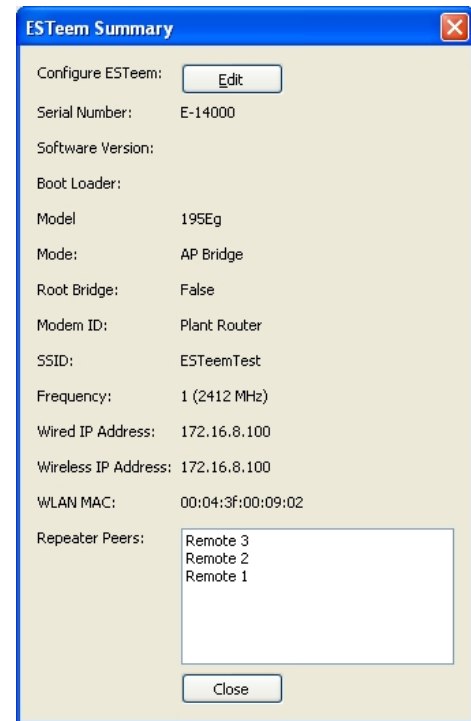

Figure 20: ESTeem Summary Page
3. By default, the ENC Utility sets all ESTeem modems in AP Bridge mode. To change the Plant Router ESTeem to AP Router mode, double-click on the icon to bring up the ESTeem Summary window and press the Edit button (Figure 20).
3. By default, the ENC Utility sets all station mode ESTeem modems to EtherStation mode. The only adjustment necessary to the EtherStation modem in our example is to enter the connected Ethernet device's MAC address. The ESTeem 195E will "clone" the Ethernet MAC address of the connected Ethernet device. To configure the EtherStation modem, double-click on the icon to bring up the ESTeem Summary window and press the Edit button (Figure 20).
- To configure the two other modems, double-click on their icons to bring up the ESTeem Summary window and press the Edit button (Figure 20).